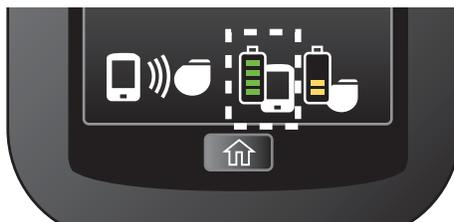

Figure 48. Programmer Charger Battery Charge Level icon
- a. Make sure the Programmer Charger Battery Charge Level icon displays at least 3 bars (*Figure 48*).